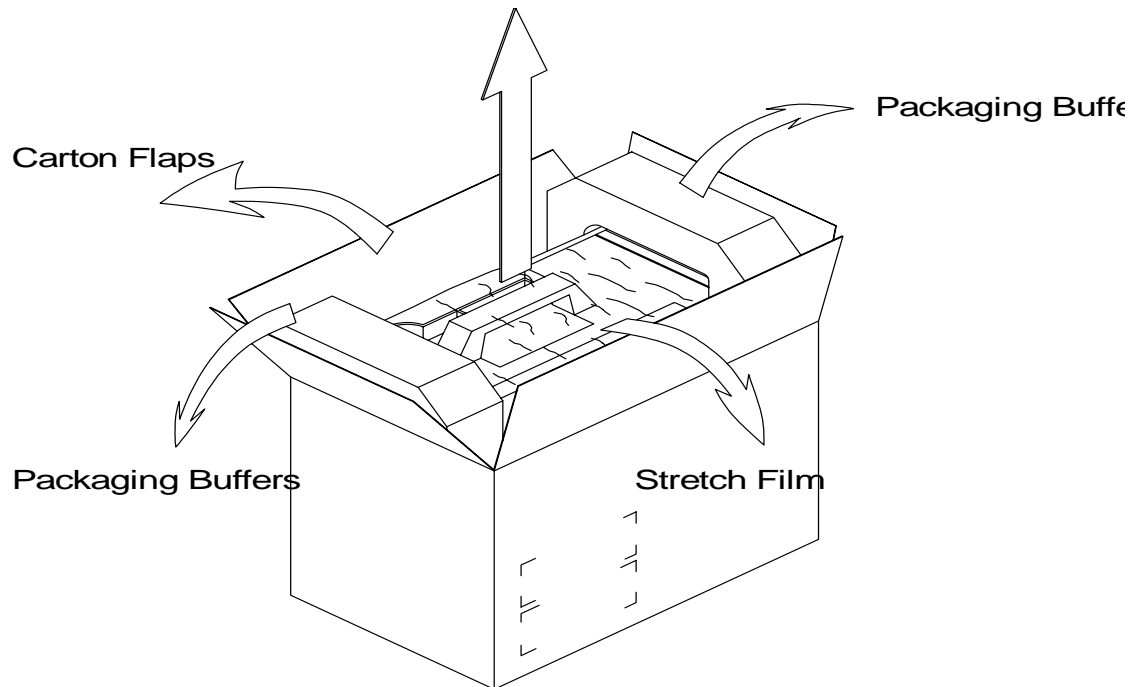

Figure 3-2 Unpacking LOGIQ™ α 100/LOGIQ™ 100 PRO
- 3.) Open the carton flaps. Refer Figure 3-2.
- 5.) Lift the system (wrapped with stretch film) out of the box along with the packaging buffers. Refer Figure 3-2
- 7.) Remove the stretch film which is wrapped around the system. Refer Figure 3-2